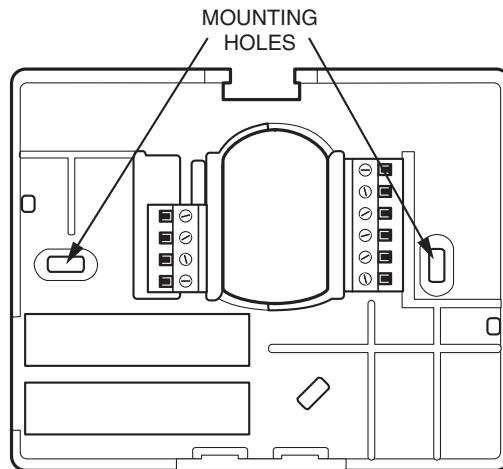

Fig. 2 — Backplate Mounting
4. Route thermostat wires through large hole in backplate. Level backplate against wall (for appearance only, the thermostat does not need to be leveled for proper operation) and mark wall through two mounting holes. See Fig. 2.